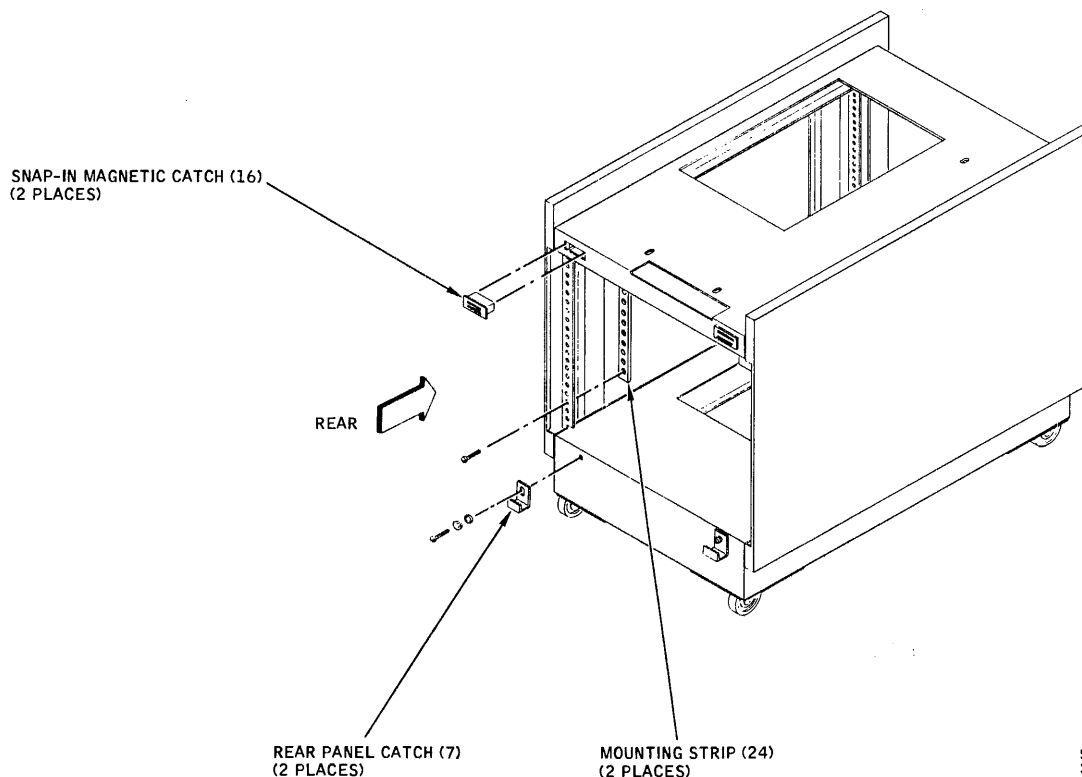

Figure A-5. Stand Assembly, Steps 8 thru 10
8. Install two Rear Panel Catches (7) to the Frame Base member of the assembly, as shown in Figure A-5, using two #10 x 9/16" pan head screws, split lock-washers, and flat washers (13, 14, 15).
9. Install two snap-in, Magnetic Catches (16) into the two slots in the Frame Top member of the assembly, as shown in Figure A-5.
10. Install two Mounting Strips (24), one each to the rear of the fixed frame members on the right and left sides, as shown in Figure A-5. Use two #10 x 9/16" pan head screws passing thru the third hole from the bottom of the fixed frame member into the bottom hole of the mounting strip, as shown in the figure.